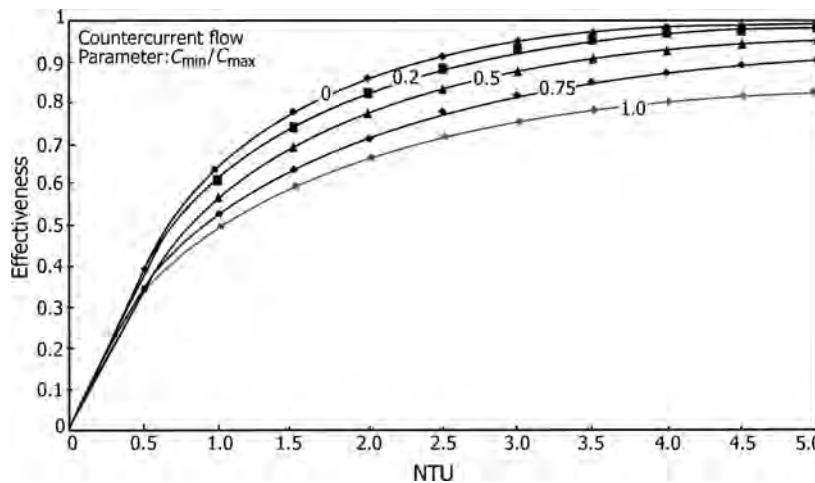

FIGURE 10.42 Heat exchanger effectiveness for countercurrent flow.
- Figures 10.42 and 10.43 give relationships for NTU and effectiveness of the heat exchangers for countercurrent and parallel flow conditions, respectively.